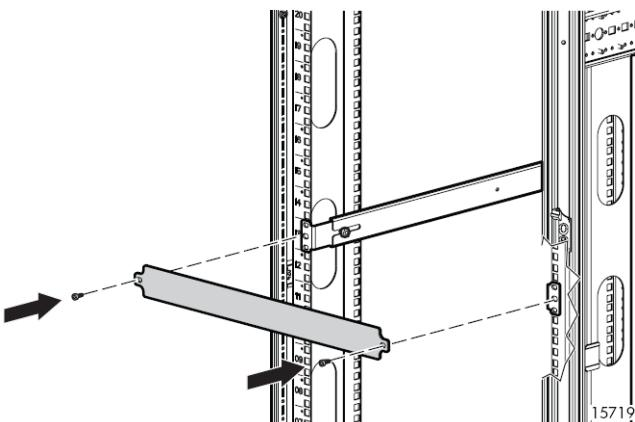

Figure 12 Installing the filler panel
7. Optional: Fasten the filler panel to the rear mounting brackets with two M6 machine screws (Figure 12).